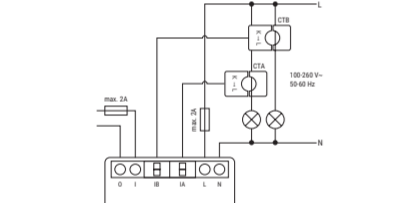

Fig. 1: Basic wiring diagram
- Install the current transformer CTA around the wire of the first load circuit as shown in Fig. 1.